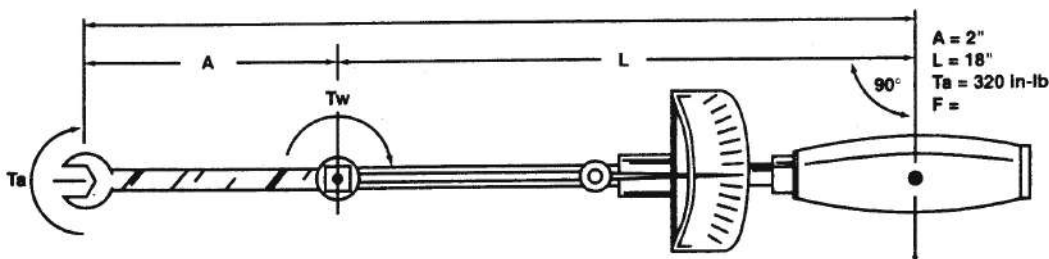

Figure 9.33.
71. (Refer to figure 9.33) The trunnion nut on an aircraft landing gear requires a torque of 320 inch-pounds. To reach the nut, a 2-inch straight adapter must be used on the torque wrench when the required torque of the nut is reached?